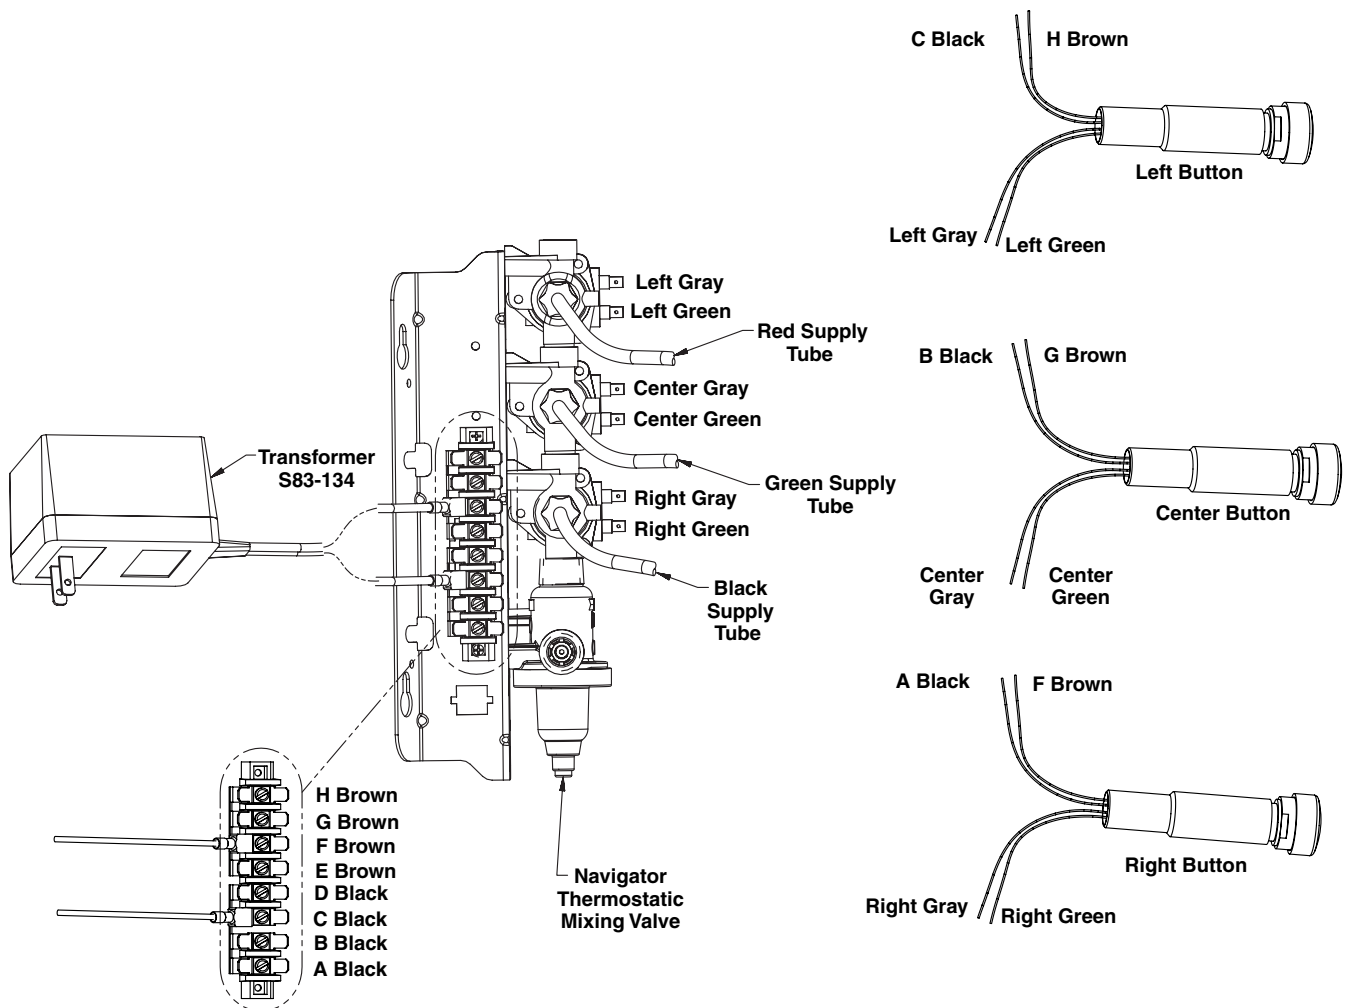

Figure 7
1. Insert the three sprayhead supply tubes into the three solenoid tube connectors by loosening the compression nut and firmly pushing the tubing into the connector until the tubes are fully seated, then re-tighten the compression nut (hand-tight plus two full turns with a wrench) (see Figure 7).